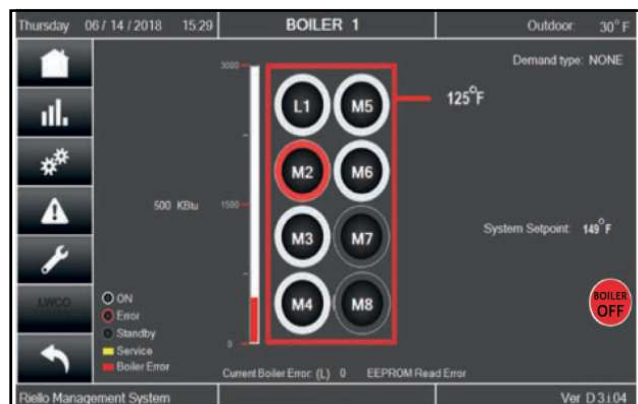

Fig.3 Boiler Screen - Boiler disable
1. Ensure boiler is disabled via touchscreen button. Button should display in red as “Boiler OFF”(See Fig 3).